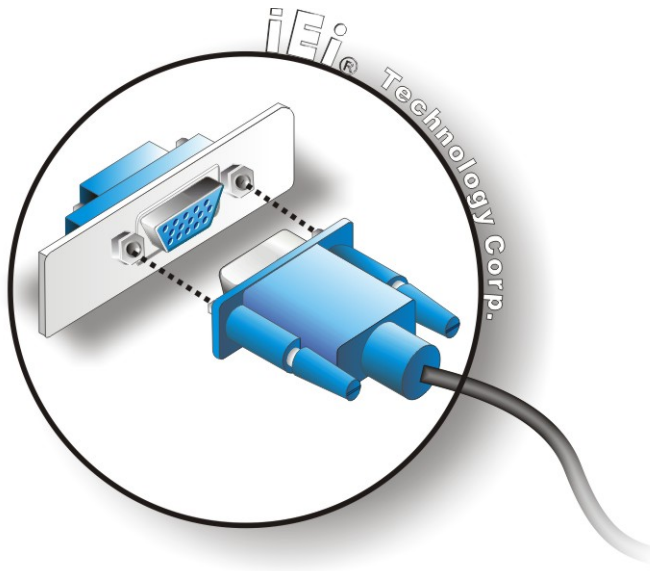

Figure 4-21: VGA Connector
- Step 5:** **Insert the VGA connector** Once the connectors are properly aligned with the insert the male connector from the VGA screen into the female connector on the IMB-G41A. See **Figure 4-21**.